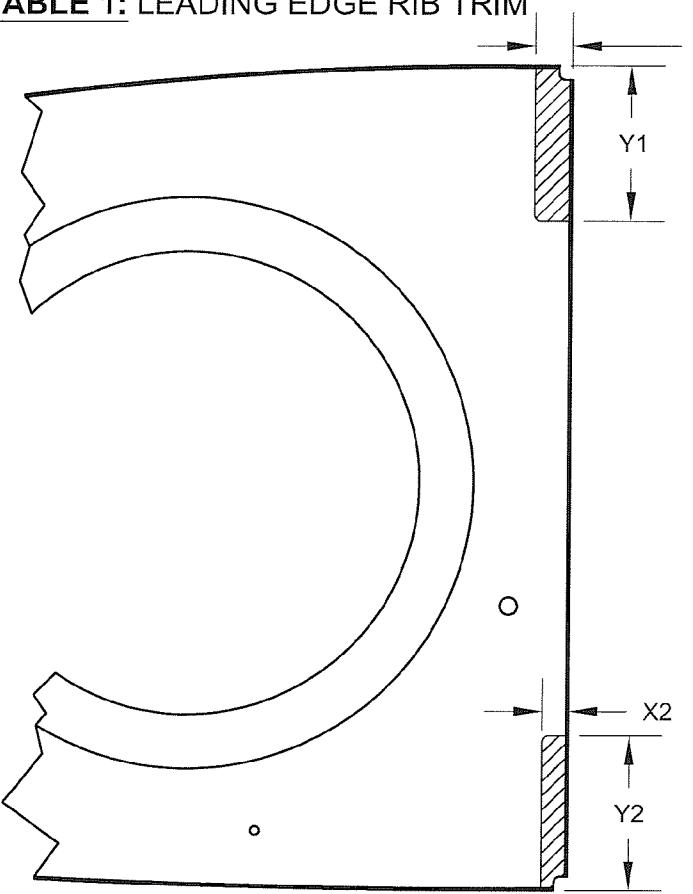

FIGURE 2: LEADING EDGE RIB TRIM
Step 3: Modify two W-1009-L for the left wing assembly and two W-1009-R Leading Edge Ribs for the right wing assembly per the dimensions given in Table 1 and as shown in Figure 2. This will create W-1009-1L, W-1009-2L, W-1009-1R and W-1009-2R. The ribs must be notched to fit around the spar bars and rivet heads on the main spar assembly. Because the main spar bars are stepped (spanwise thickness changes) two different modified ribs will be required, see isometric view on page 1.